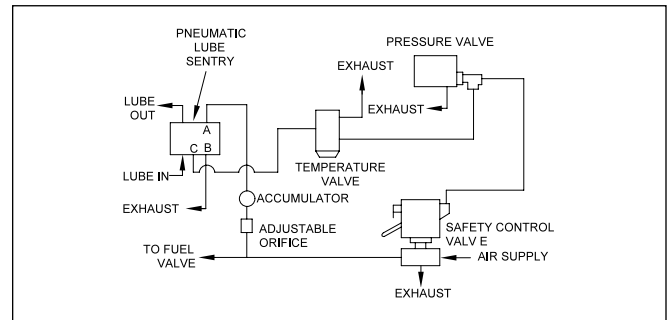

Figure 3. Typical Series Installation of Pneumatic Engine Shutdown Circuit
A. Series Type (in-line) Safety Control Pneumatic Circuits (See Figure 3)
4. To test device for operation, start engine to initiate flow in the divider valve system. Operation of the air valve within the Lube Sentry will be observed as the tripping out of the reset latch (manual override) lever on the safety control valve (see Figure 3), and the continued operation of the engine.